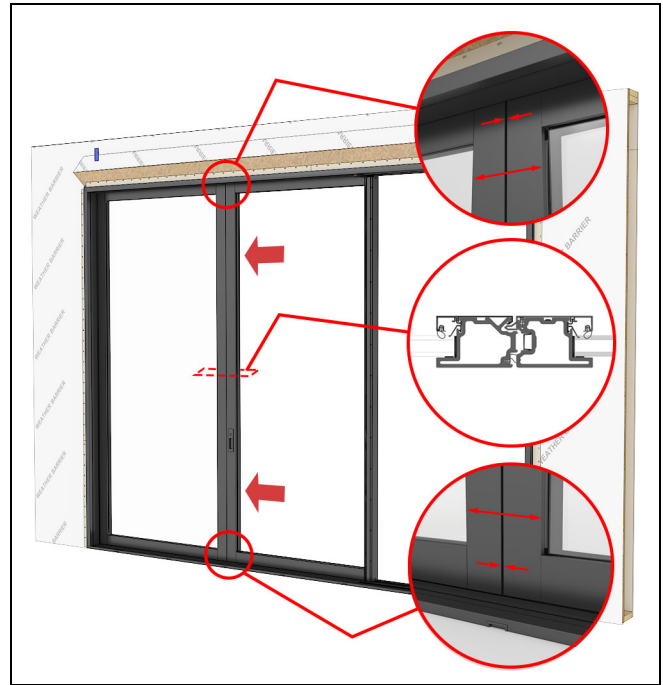

Figure 100 Adjust operator panel to obtain an even reveal.
7. Close operator panel and lock. Adjust rollers as needed to achieve proper reveal and lockset engagement. See Figure 100. For more information on adjusting rollers, refer to the section, Adjusting Panels on page 58.